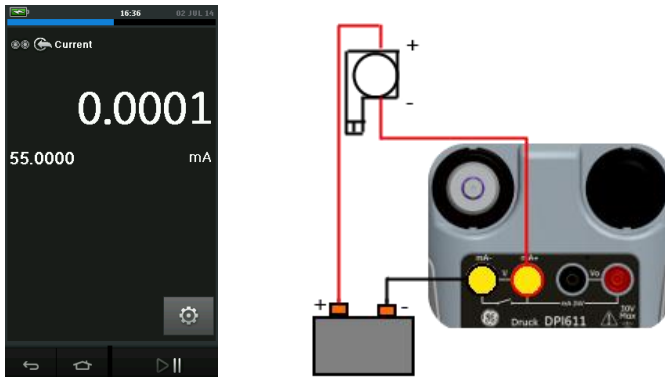
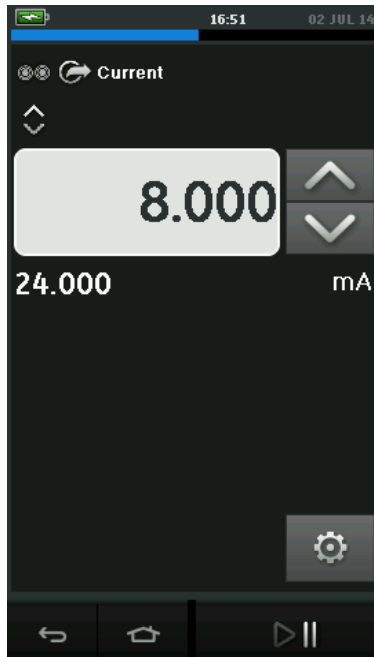

Figure 2-22 Measure current with external loop power (Range: $\pm 55\text{mA}$)
Figure 2-23 Source current with external loop power. (Range: 0 to 24 mA)
- *Figure 2-22 and Figure 2-23 show how to set-up to measure ($\pm 55\text{mA}$) or source (0 to 24mA) a current with external loop power.*